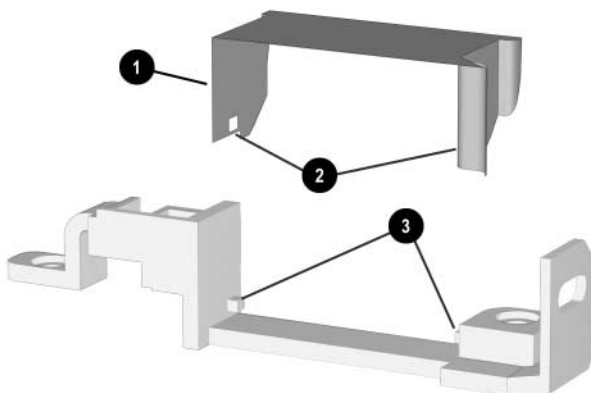

Figure 5-33. Replacing the Fan Channel on the Right Display Support
A plastic fan channel ❶ attaches to the right display support. The channel has two slots ❷ on either end that fit around two tabs ❸ on the display support. The fan channel is included in the Miscellaneous Plastics/Hardware Kit, spare part numbers 285261-001 and 286868-001 (Figure 5-33).